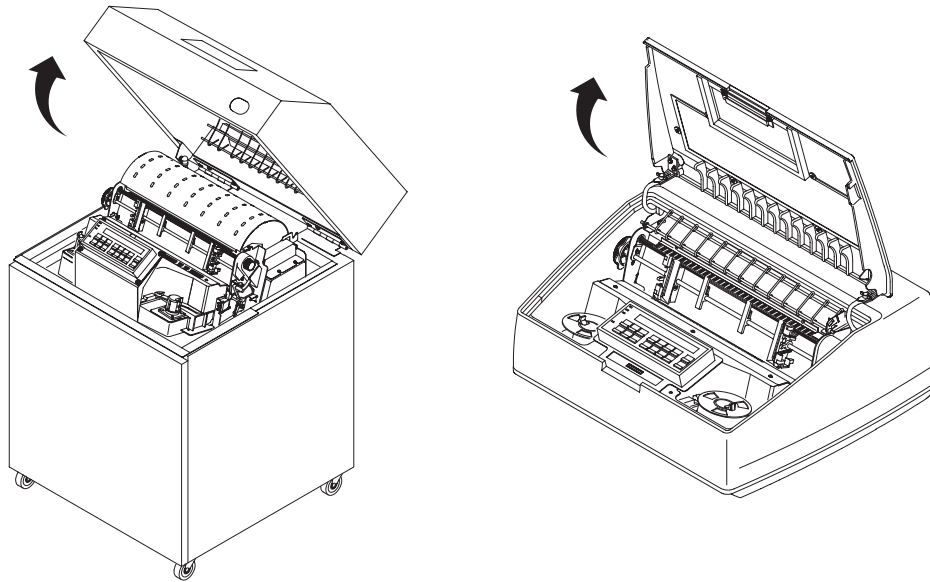

Figure 2-35. Opening the Printer Cover
1. Open the printer cover. See Figure 2-35.